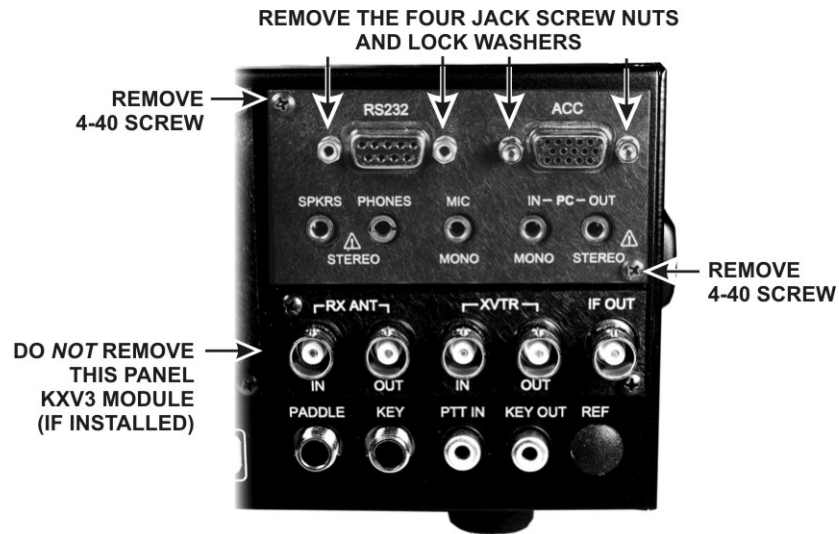

Figure 2. Removing the KIO3 Rear Panel.
- ☐ Remove the four jack screw nuts with their lock washers and the two black pan head screws from the KIO3 rear panel as shown in Figure 2. Remove the rear panel and set it aside.
- Replace the KIO3 rear panel and hardware shown in Figure 2. Hint: Do not tighten any of the screws or jack screw nuts until all of them have been started on their threads. Be sure to tighten all of them.